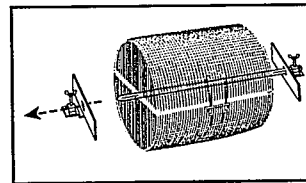

Figure 6
8. Push remaining End Bracket onto Rotisserie Bar and against Round Basket. See Figure 6.